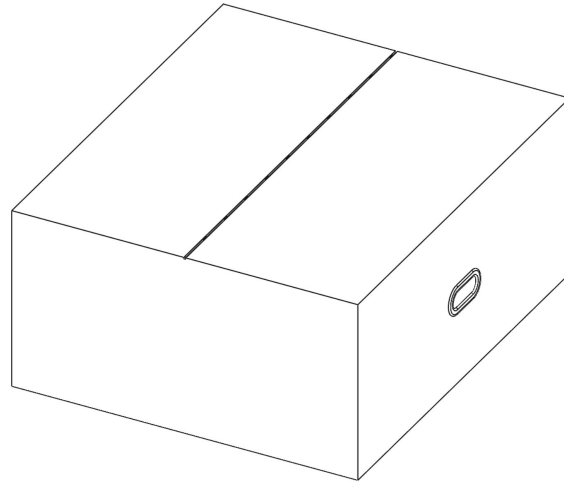

Fig. 4
1. Grab Cable 1 and connect the VGA cable onto the port on the back of the scan head(see Fig 4).